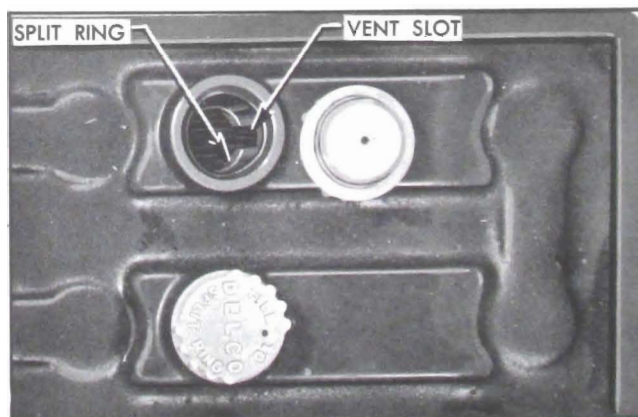

Figure 1-9—Battery Filler Well
7. Battery. Add distilled water to bring level to split ring at bottom of filler well. **WARNING:** Do not overfill. Clean top of battery; if wet with acid, neutralize with soda and wash clean. See Figure 1-9.